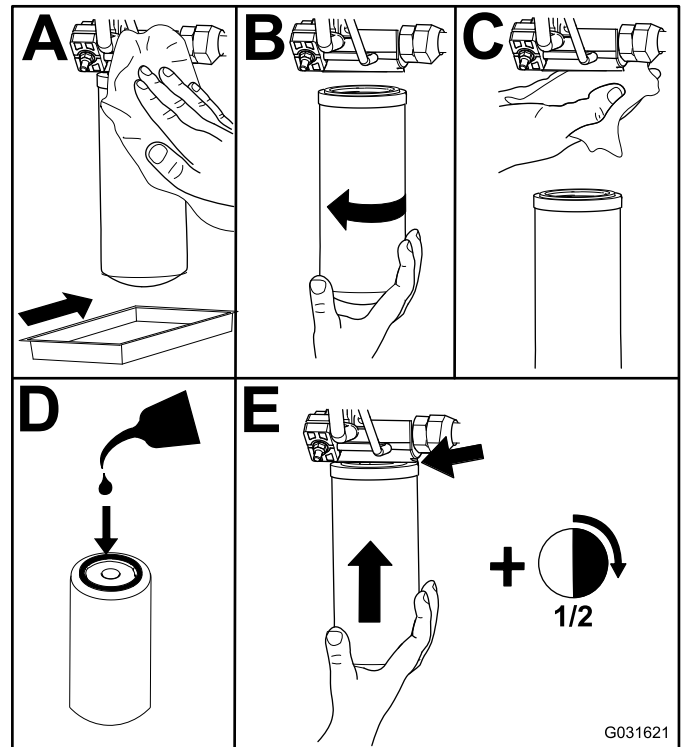

Figure 76
2. Replace the hydraulic filters (Figure 76).